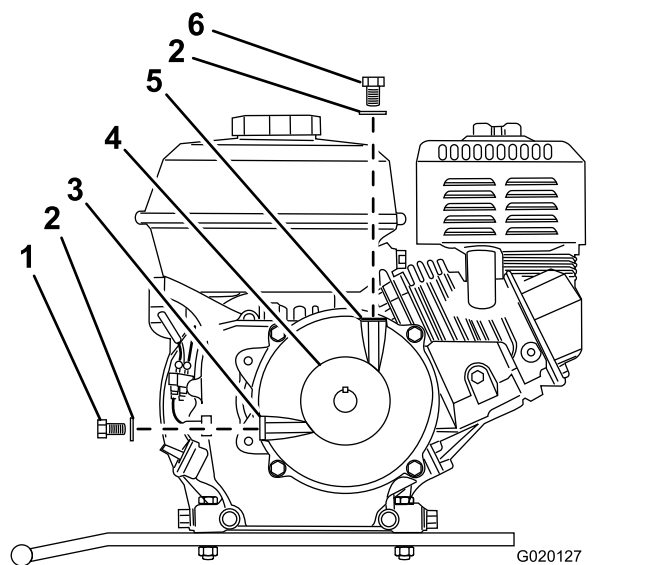

Figure 59
6. Remove the filler bolt and washer from the filler port on the top of the reduction case (Figure 59).
12. Install the oil-level-check bolt and washer to the oil-level port of the reduction case, and tighten the bolt (Figure 59).
13. Install the filler bolt and washer to the filler port of the reduction case and tighten the filler bolt (Figure 59).